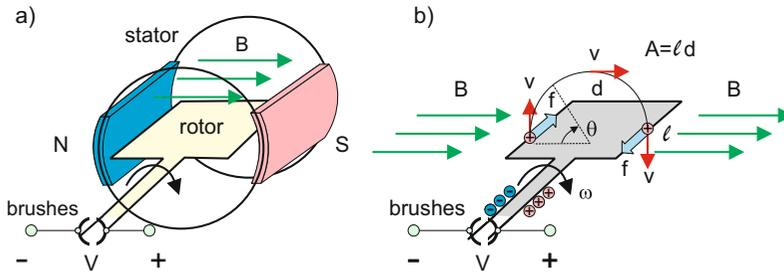

Fig. 2.27. Charge separation in a DC electromechanical generator.
A realistic electromechanical voltage source—a basic *DC generator* with permanent magnets—is shown in Fig. 2.27. This generator setup makes use of the *Lorentz force*:
**Exercise 2.12:** Determine average open-circuit generator voltage in Fig. 2.27 given  $A = 0.1 \text{ m}^2$ ,  $B = 0.2 \text{ T}$ ,  $\omega = 20 \text{ rad/s}$  (191 rpm), and the armature with 20 turns.